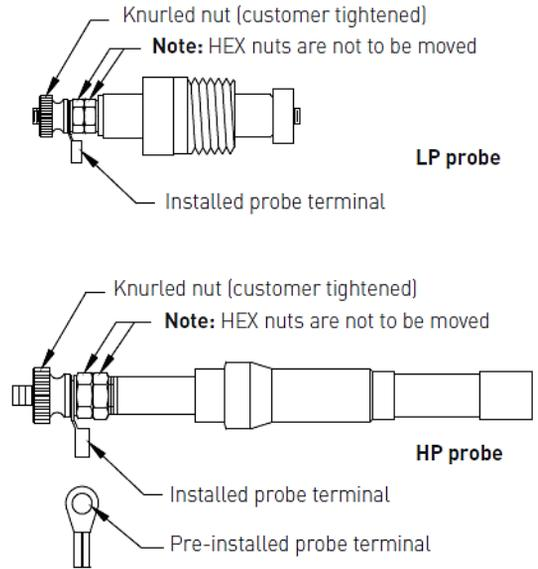

FIGURE 2
The water column is supplied with either of two probe styles, if used with a remote level indicating system. For applications below 525°F (274°C) / 850 psig (58 barg), an economical probe is available with a PTFE wetted insulator. It can not be used if either parameter (525°F (274°C) or 850 psig (58 barg)) is exceeded. For all other applications, probes with the zirconium oxide (ceramic) insulators must be used. The high pressure (HP) probes are easily recognized by the brazing between the insulator and the body (Fig 2). The two styles of probes are not interchangeable and will not fit in a receptacle designed for the other. LP probes use a threaded fitting, the HP a compression fitting.